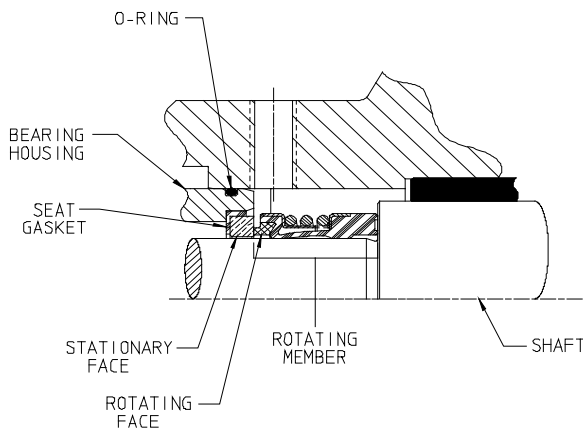

FIGURE 7
9. See **FIGURE 7** and notes under **“MECHANICAL SEAL”** on this page. Lubricate the outside diameter of the seat gasket and install the stationary member of the mechanical seal into the end of the bearing housing. **Note** the shiny side of the seal seat faces out.